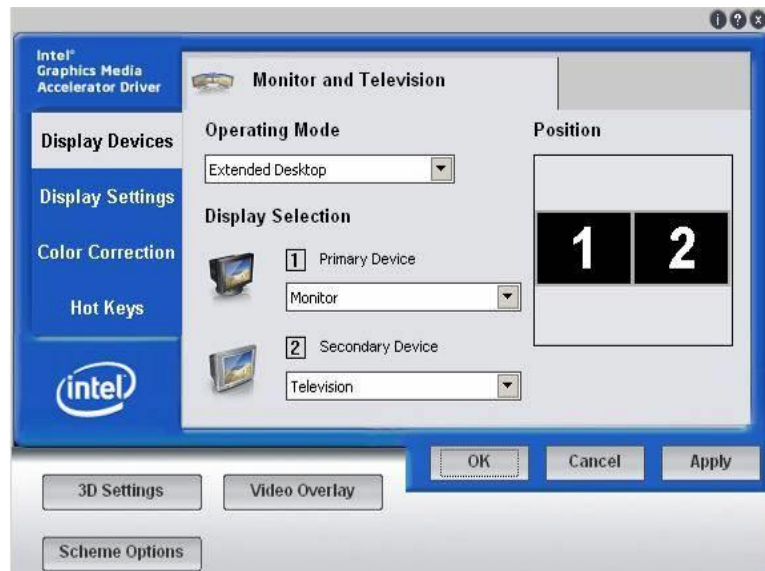

Fig.3-5
- 3) Choose “Monitor” for “Primary Device”, and choose “Secondary Device” for “Television”, and then press “apply”. See picture in Fig.3-5